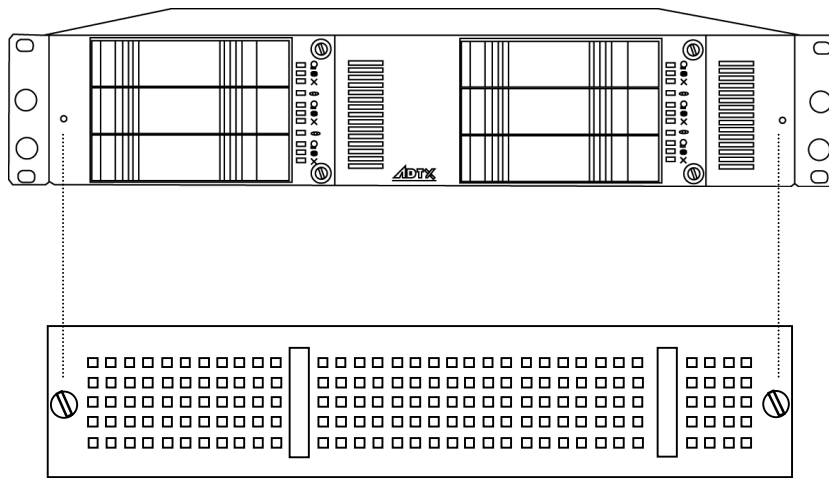

Figure 1. Attaching the front cover (optional).
The RAID system comes with a front cover that can be optionally attached to the front of the system. To attach the cover, align the two (2) mounting screws with the corresponding threaded holes in the front of the system. Once aligned, insert and tighten the screw fasteners on the cover. See figure 1.